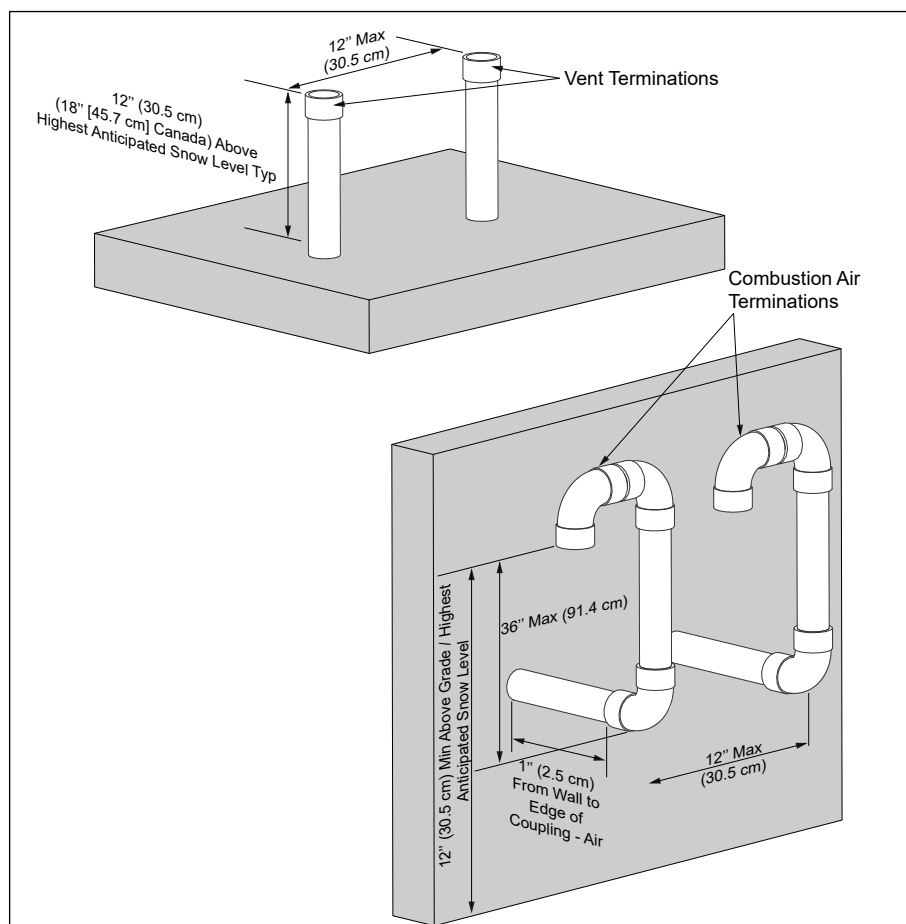

Fig. 13 - Direct Vent - Vertical Vent and Sidewall Combustion Air Terminations of Multiple INSTINCT Boilers
2. Each vent and combustion air termination must be a minimum 12" [30.5 cm] from the adjacent termination for installations in the U.S. as shown in *Fig. 13 below*. For installations in Canada, provide clearances as required by CAN/CSA B149.1.